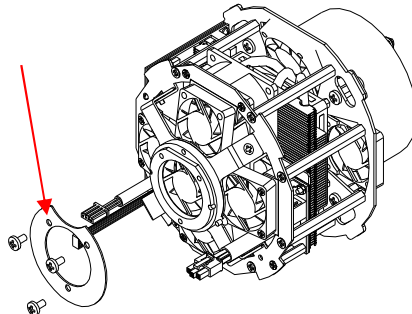

Fig.2
6. Place HPLED T on working bench and start loosening the 3 M4 screws that hold the metal ring (marked by red arrow in figure 2).